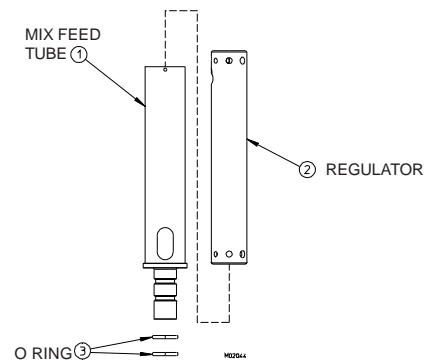

Figure 10-1 Mix Feed Tube Assembly
3. Place the mix feed tubes and regulators in the bottom of the hopper pans. Do NOT place regulator into the mix feed tube. See figure 10-1.